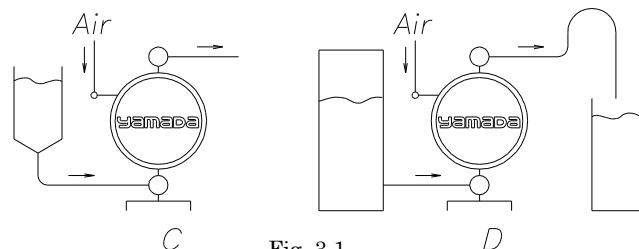

Fig. 3.1
- 1) Decide where the pump should be installed and secure a suitable space (see Fig. 3.1 A to D).